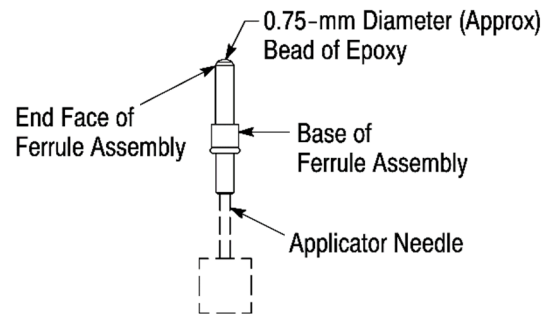

Figure 5
2. Hold the ferrule assembly vertically and insert the needle tip into the base of the ferrule assembly until it is against the back (end closest to the base) of the ferrule assembly. Refer to Figure 5.